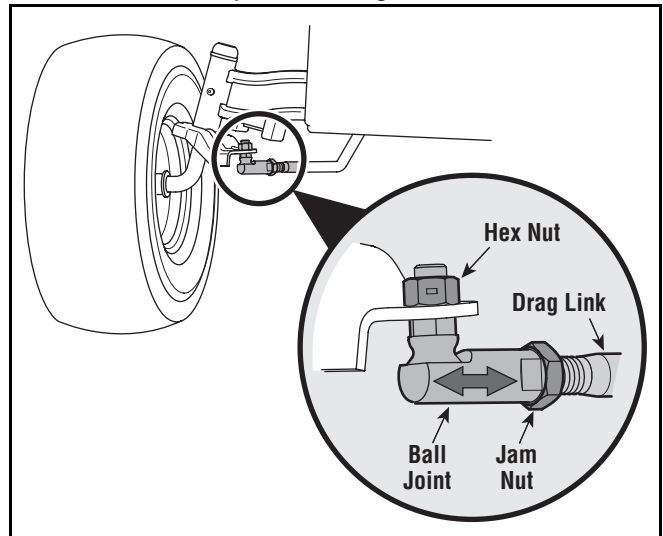

Figure 12
1. Loosen the jam nut found on the drag link at the rear of the ball joint. See Figure 12.
2. Remove the hex nut on the top of ball joint. See Figure 12.